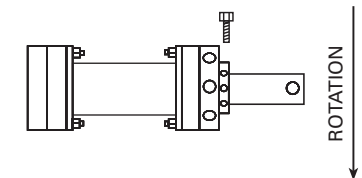

Fig 4
**step 8.** Carry out any final adjustments to ensure that the cleaner is performing (item 6 - fig 2) and rotate the tensioner and lock in place with set bolts (see fig 4) in the tensioner hub.